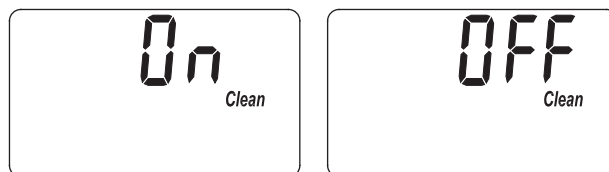

FIG. 29
1. Press and hold the PROGRAM button until the screen in Figure 28 is displayed. Once in this display, press the PROGRAM button twice and one of the two displays in Figure 29 is shown.